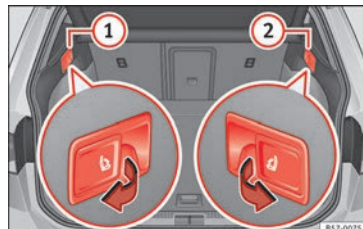

Fig. 153 In the luggage compartment: levers for remote release of the left part (1) and right part (2) of the rear seat backrest.
- Pull the remote release lever of the left part » Fig. 153 ① or right part ② of the backrest in the direction of the arrow. The released part of the rear seat backrest is folded automatically down and forwards.